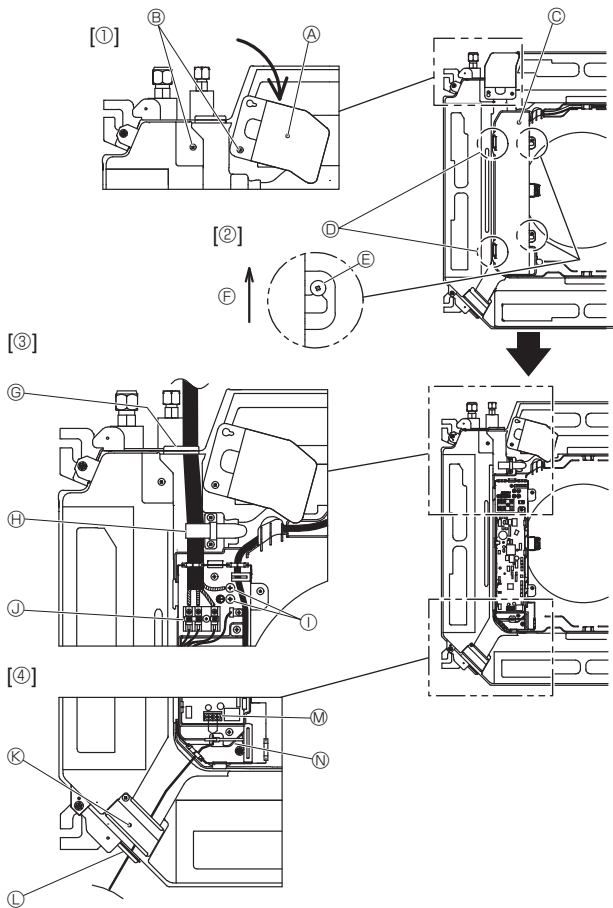
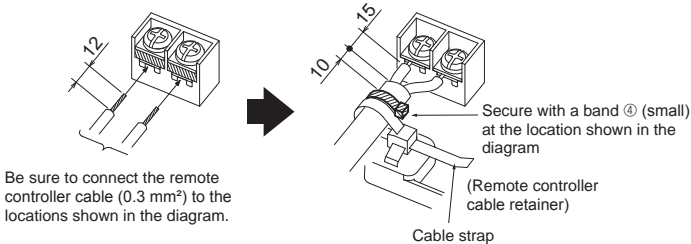

Fig. 6-1
Fig. 6-3
### 6.1. Indoor unit (Fig. 6-1)
1. Loosen the two screws securing the electrical wiring service panel, and then turn the electrical wiring service panel. [Fig. 6-1 ①]
2. Loosen the two screws securing the electrical box cover, then slide the electrical box cover. [Fig. 6-1 ②]
3. Pass the power cable, indoor/outdoor unit connecting cable and earth cable through the wiring entries given in the diagram. [Fig. 6-1 ③]
If you cannot use round crimped terminals, following the procedure in Fig. 6-3 to 6-6.
4. Pass and wire the remote controller cable through the wiring entries given in the diagram. [Fig. 6-1 ④, Fig. 6-3]